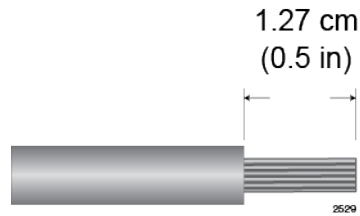

Figure 134. Stripping the Power Wires
1. Prepare adequate lengths of two stranded 8 AWG power wires by stripping them as shown in Figure 134 on page 214.